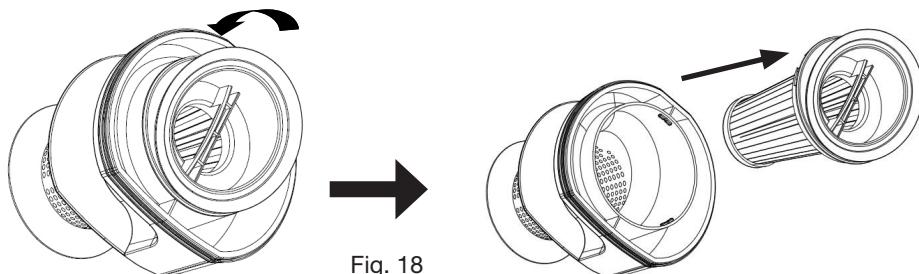

Fig. 18
3. Remove the EPA filter by gently turning it anticlockwise to release it (Fig. 18).